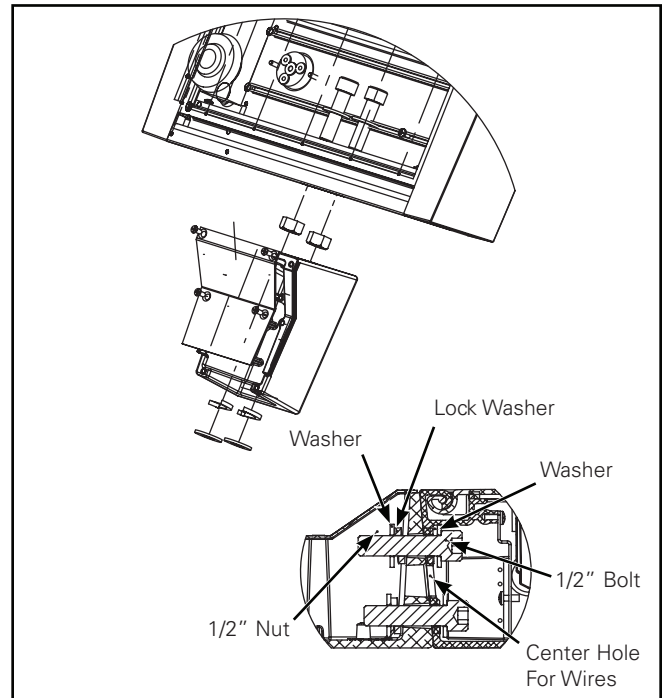

Figure 8.
3. Mount the housing side arm to the back of the fixture's body using provided 1/2" x 1-3/4" long bolts, washers and nuts. Torque bolts to 40 foot-lbs. (55 N-M). Bolt is inserted from inside of the fixture body. Pull the wires out of center hole and towards house side arm. (Figure 8.)